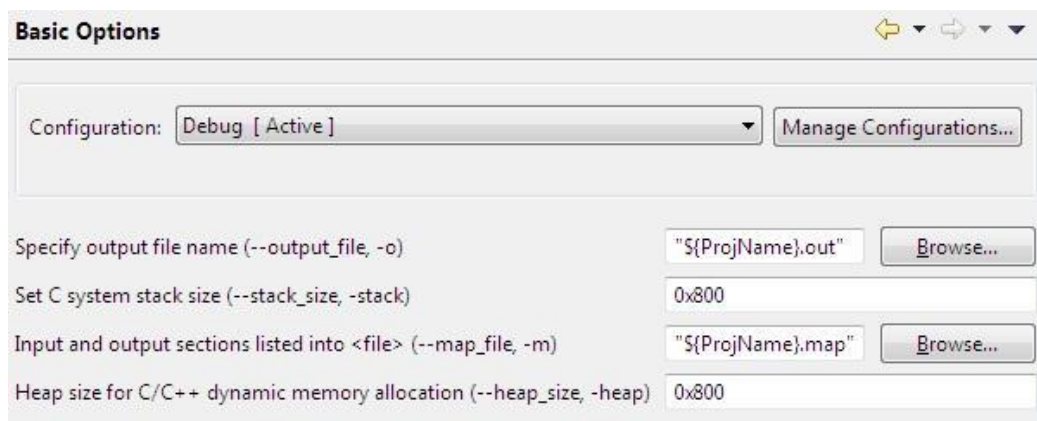

Fig.6. Define stack & heap size in C6400 Compiler.
a) Under Basic option: (Fig.6)